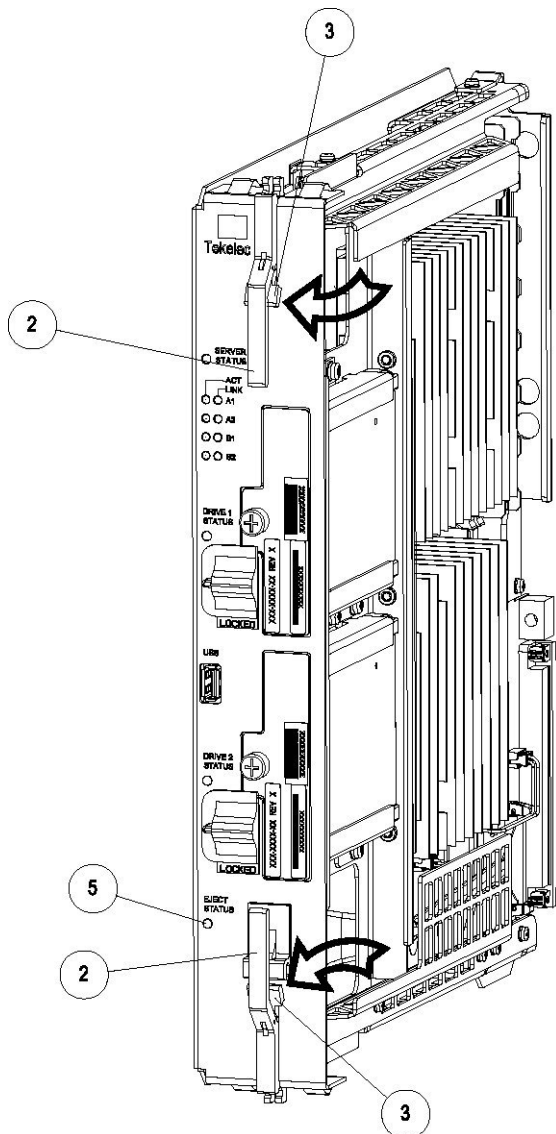

Figure 15: E5-APP-B Card UNLOCKED
3. Grasp the upper and lower card Inject/Eject (I/E) lever release (3) just underneath the I/E lever, and press it to meet the I/E lever. This is the mechanical interlock for the card. See Figure 15: E5-APP-B Card UNLOCKED